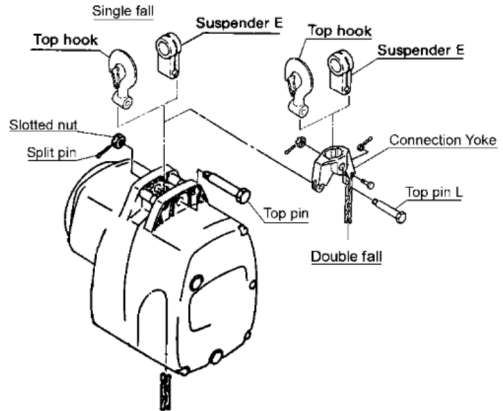
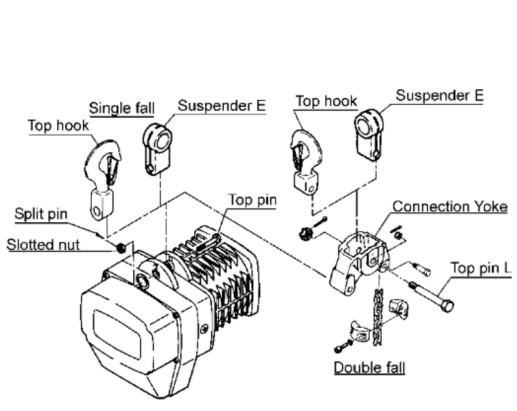

Figure 3-11 Model SH
Figure 3-12 Model ES
- 4) Single Fall Units – Remove the Top Hook assembly by removing the Split Pin from the Slotted Nut. Remove the Slotted Nut, pull out the Top Pin, and remove the Top Hook. Replace with Suspender E, replace Top Pin, Slotted Nut and Split Pin. Be sure to bend Split Pin ends of the Split Pin away from each other sufficiently so the Split Pin remains captive in the Top Pin. Refer to **Figure 3-11** or **Figure 3-12** for the appropriate product. Attach hoist to the trolley.
- 5) Double Fall Units (except 5 Ton ES) – Remove the Top Hook assembly by removing the Split Pin from the Slotted Nut. Remove the Slotted Nut, pull out the Top Pin L from the Connection Yoke, and remove Top Hook. Replace with Suspender E, replace Top Pin, Slotted Nut and Split Pin. Be sure to bend Split Pin ends of the Split Pin away from each other sufficiently so the Split Pin remains captive in the Top Pin. Refer to **Figure 3-11** or **Figure 3-12** for the appropriate product. Attach hoist to the trolley.
Note: Unlike 3 Ton (Single Fall) and below (see Figure 3-12), Suspenders G for 3 Ton (030C) and 5 Ton connects directly to the Connection Yoke without the Connection Yoke Rubber.